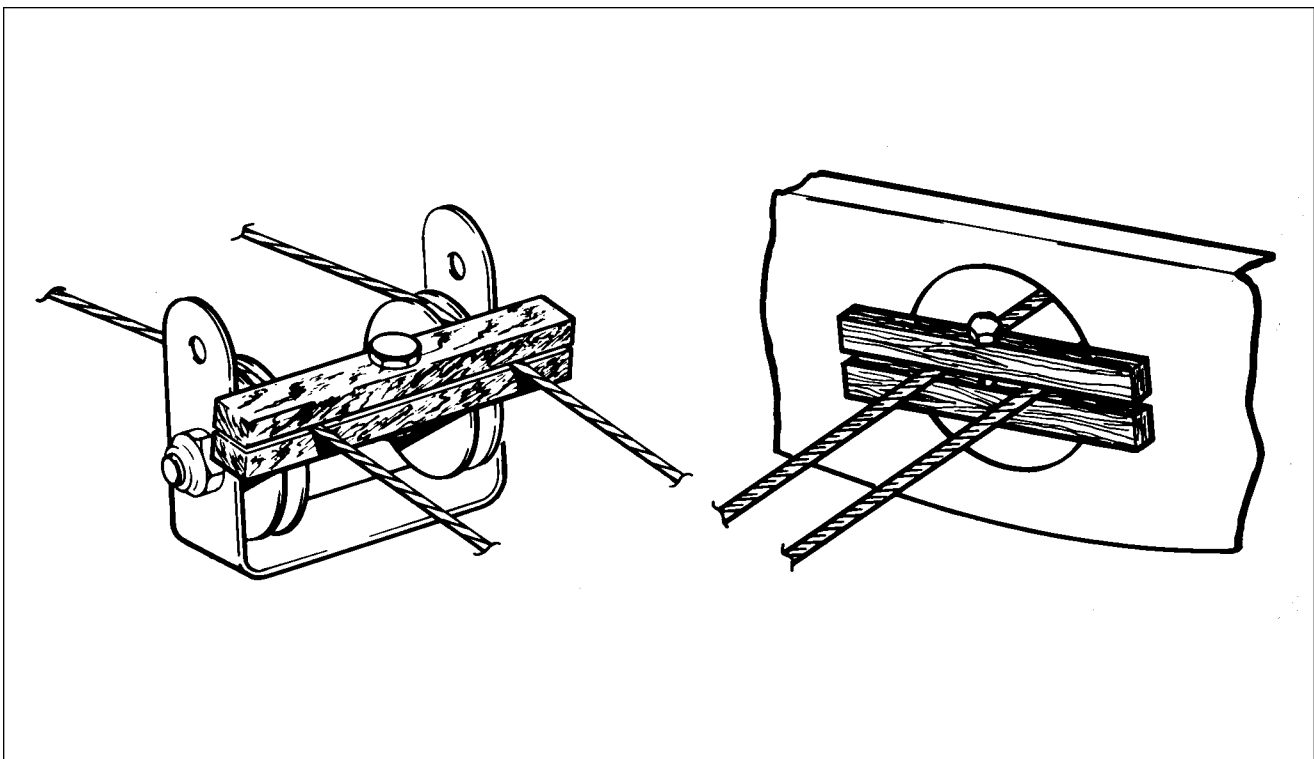

Figure 27-16. Methods of Securing Trim Cables
2. If the aft trim cable is not to be removed, block the cables at the pulleys in the upper aft section of the fuselage to prevent them from unwrapping from the trim drum. (Refer to Figure 27-16.)
2. Block the trim cables at the first set of pulleys forward of the cable turnbuckles in the aft section of the fuselage by a method shown in Figure 27-16.